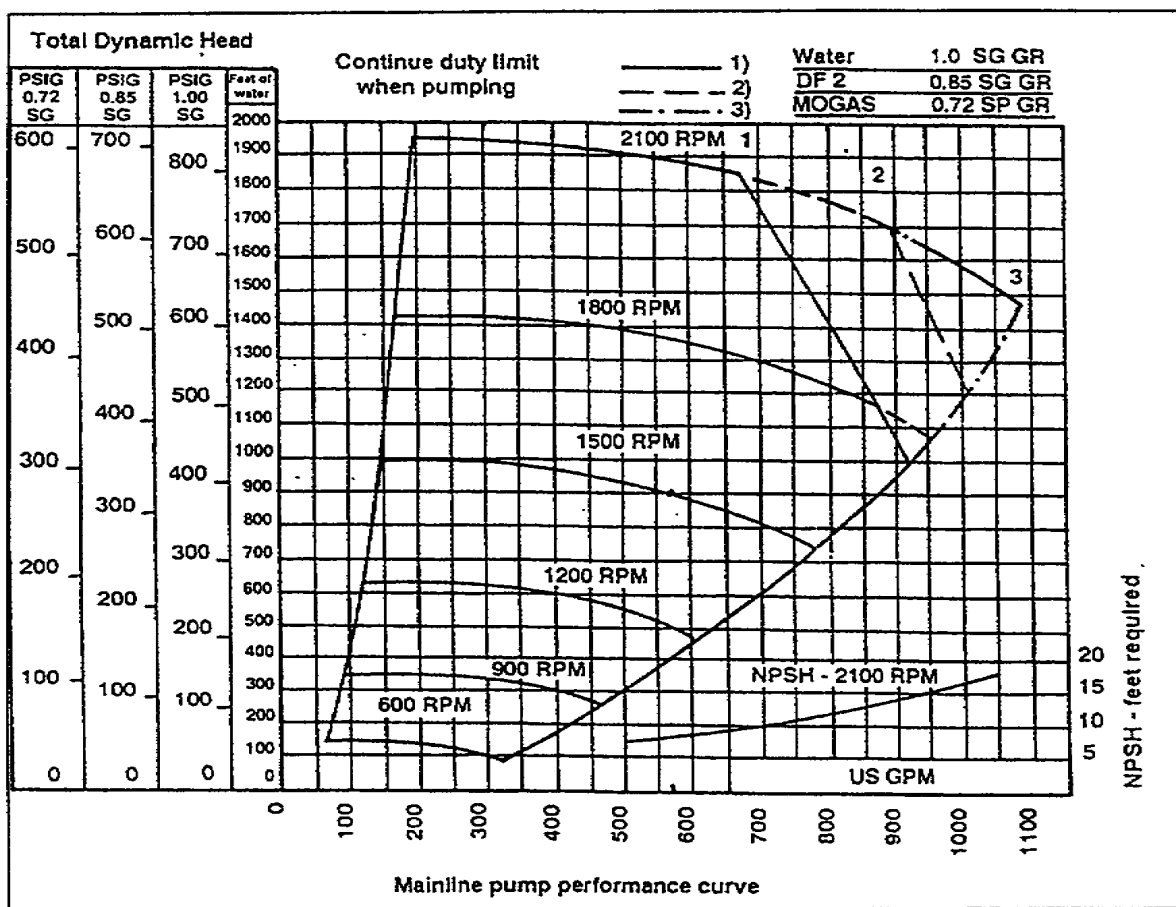

Figure 2. The 6-inch, three-stage, 800-GPM mainline pump (IPDS)
b. Figure 2 shows the pump performance of a 6-inch, three-stage, 800-GPM mainline pump (IPDS), operational output of 800-GPM at 1,800 FTH, at 2,100 RPM, when pumping liquids with specific gravity of 0.85 (diesel). Using the pump graph in Figure 2. Given a 6-inch, three-stage, 800-GPM mainline pump (IPDS) with a head capacity of 1,800 RPM, product diesel, and a operating pressure of 450 PSI, determine all other factors. See Figure 2 to determine the rate of flow and FTH.
(1) Enter the graph on the vertical line at 450 PSI for diesel. Follow this line horizontally to the right until it intersects the head capacity curve for 1,800 RPM. At this point, all the answers are determined vertically, and horizontally.
(2) To read the rate of flow in GPM, move down to the horizontal line for GM and read the answer 780 GPM.
(3) To determine the FTH, read to the left of PSI. To be more accurate or to confirm your reading, go through the formula that was given earlier as follows: